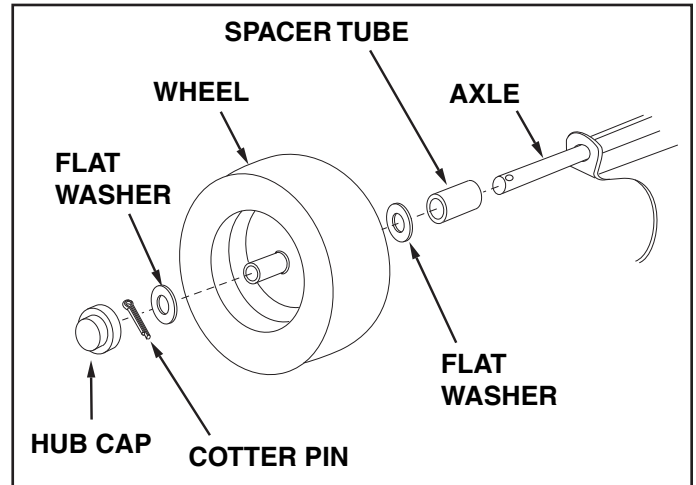

FIGURE 2
6. Place a spacer tube and a washer onto each end of the axle. See figure 2.
8. Assemble a wheel (valve stem facing out) and a flat washer onto the axle. Secure the wheel on the axle with a cotter pin, spreading the ends of the pin around the axle. Press a hub cap onto the flat washer. Repeat on other end of axle. See figure 2.